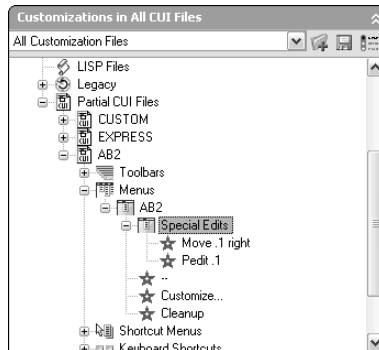

**Figure 33-9:** The new partial menu in the Customizations In pane of the Customize User Interface dialog box.
14. Click the *Save All Current Customization Files* button in the Customizations In pane. Click the *Special Edits* menu item. Your pane should look like Figure 33-9.